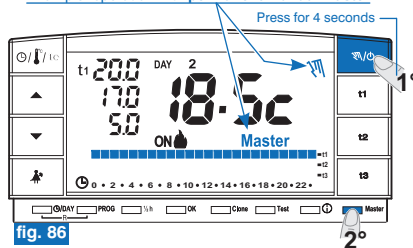

fig. 86
- press the "M" key on the MASTER chronothermostat (approximately 4 sec.) to enter into permanent manual operation; the symbol "M" becomes fixed (see details in paragraph 7.1 point B) (example in fig. 86).